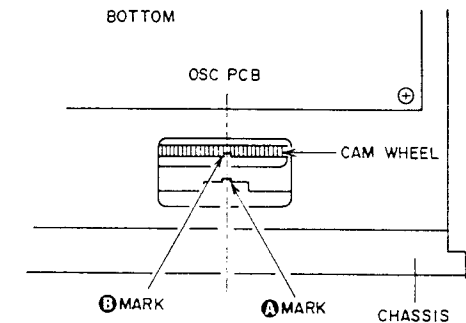

Fig. 4-2
- b. Adjust VR1 slightly so that the center of marker ② coincides with the center of marker ① in the STOP mode as shown on Fig. 4-2. (The marker ② on the CAM WHEEL can be seen clearly by lighting it from the back.)